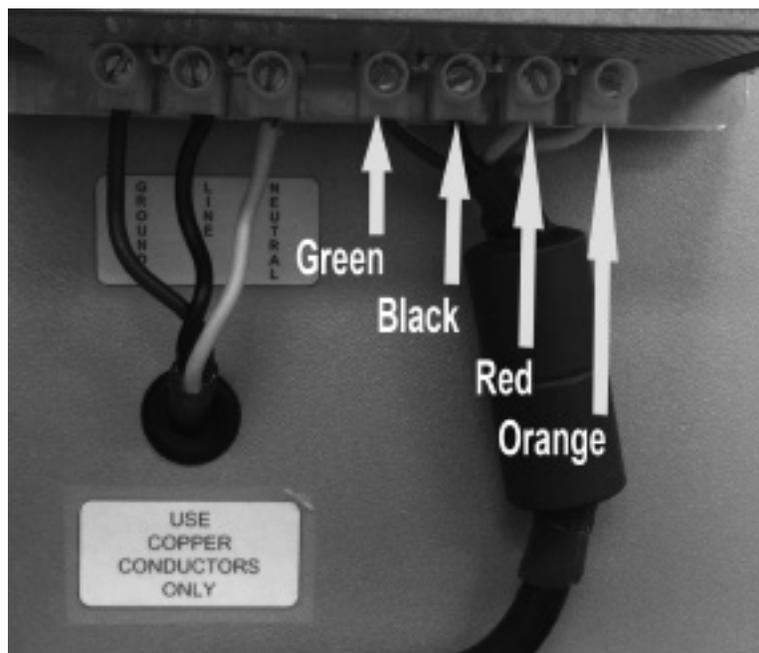

Figure 15 – Cord Reel Wiring Termination
7. Reconnect the cord reel wiring to the terminal block per Figure 15.
6. Disconnect the cord reel wiring from the terminal block (see Figure 15, page 17).